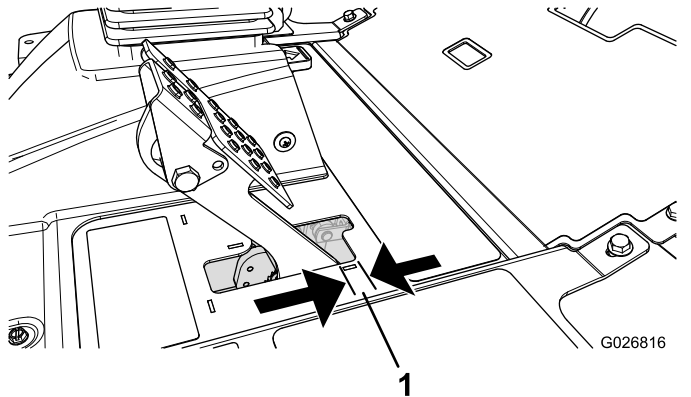

Figure 53
Adjust the brakes when there is more than 2.5 cm (1 inch) of free travel (Figure 53) of the brake pedal, or when more holding force is required. Free travel is the distance the brake pedal moves before you feel braking resistance.
2. Tighten the rear nut to move the cable backward until brake pedals have 0.63 to 1.27 cm (1/4 to 1/2 inch) of free travel (Figure 53), before wheel lock up is achieved.